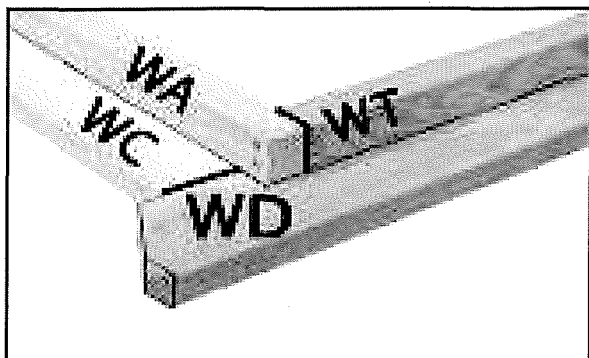

Fig A8
17. Turn frame over and repeat on the other side fig A8 & A9).